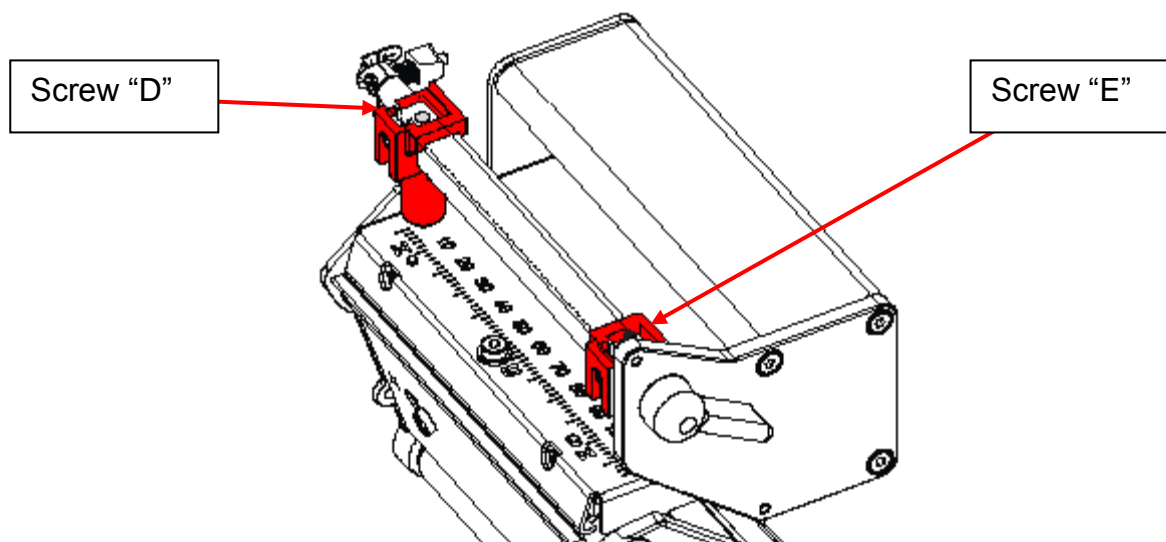

Figure 8 - Printhead pressure adjust
**4.1.** To configure the print head pressure, loosen the grub crews holding the pressure toggles, (see Figure 3) and slide both pressure toggles to their receptive left and right limits, see figure 8. This will align the printhead pressure adjustment holes through the printhead locking bar.